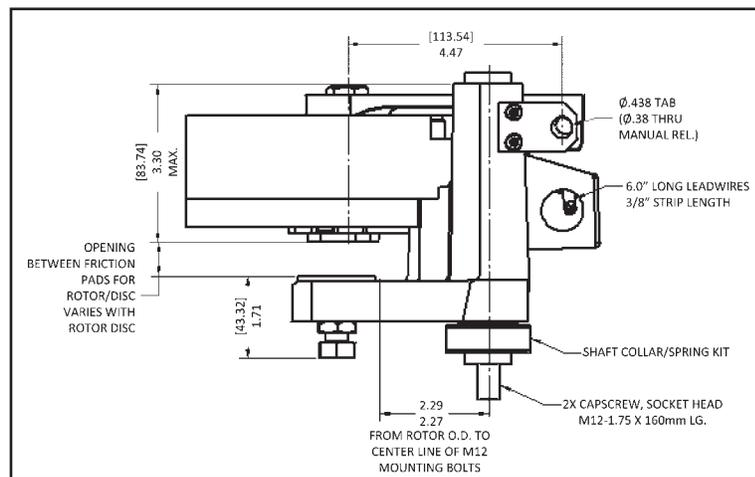

Fig. 3: Brake Location on Disc
- A. The disc needs to be inserted far enough into the brake such that the brake pad area completely contacts the disc surface. The distance from the centerline of the M12 mounting bolts to the OD of the disc should be 2.27" - 2.29", as shown in Fig. 3.